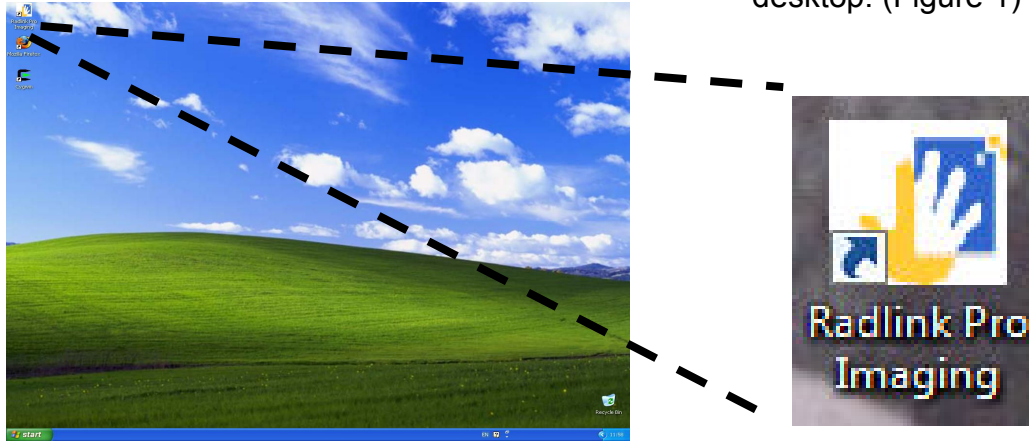

Figure 1
2. Plug the power cord to the AC Power Adapter located on the back of the CR-Pro. (Figure 1)
4. Plug one end of the Ethernet cable (Cat5/6) into the CR-Pro Ethernet port (see Figure 1). Note: Do not route the Ethernet cable and the power cable in close proximity as power cable radiation may affect transmission of data.
6. Turn the Power ON/OFF switch on the back of the CR Pro to ON (see Figure 1)
1. To start the application double click the Radlink Icon located on your desktop. (Figure 1)